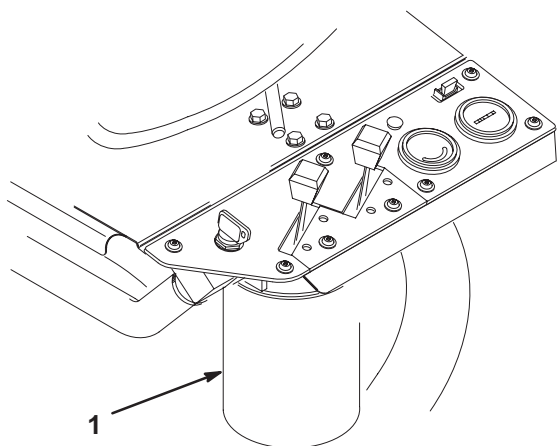

Figure 42
2. Clean the area around the filter mounting area (Fig. 42). Place a drain pan under the filter and remove the filter.